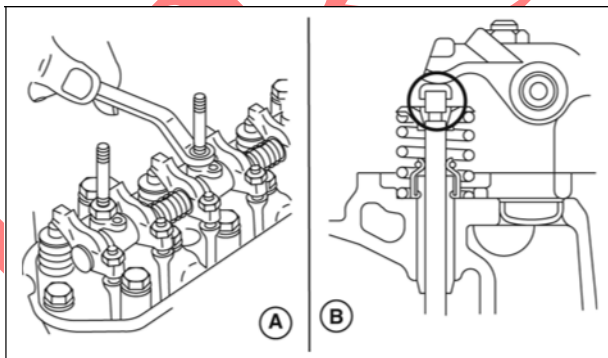

Figure 7
10. Remove rocker arm assembly (A, Figure 7) and push rods.
11. Remove valve stem caps (B).